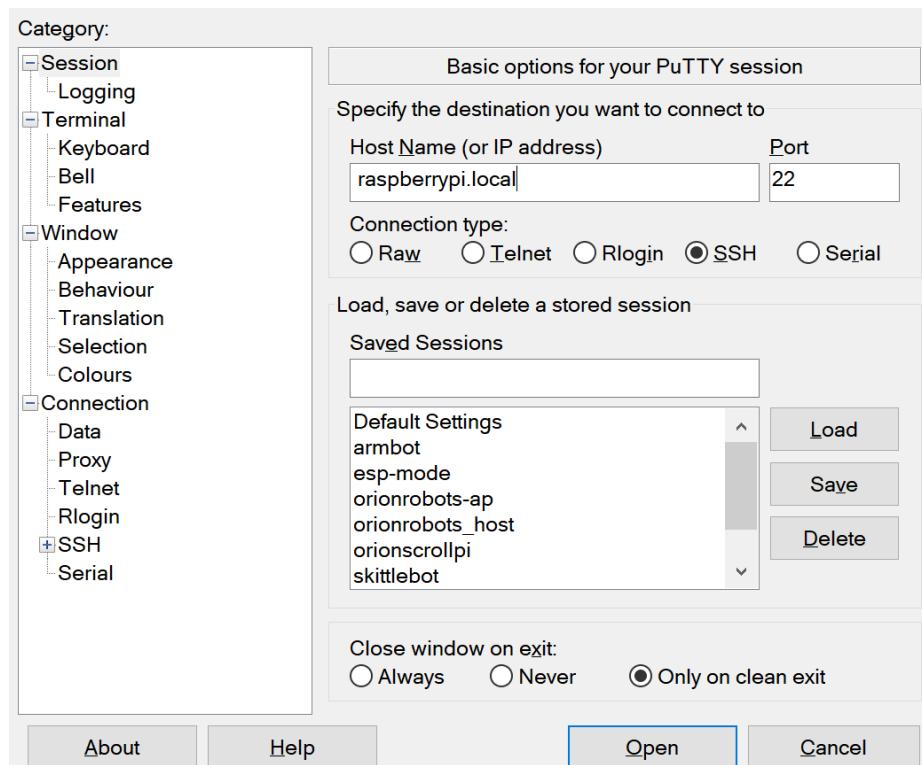

Figure 4.3 – Connecting to the Pi
1. Start PuTTY. You will see a screen like in *Figure 4.3*. In the **Host Name (or IP address)** box, type `raspberrypi.local` and click **Open** to log in to your Pi: